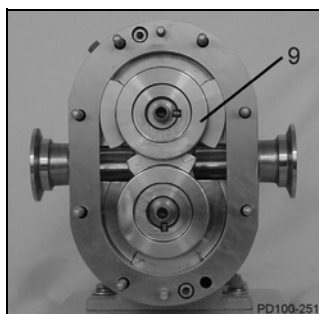

Figure 35 - Remove Overlapping Rotor First
1. Using only your hands, remove the rotor with the hub overlapping the other rotor wing (Figure 35, item 9).